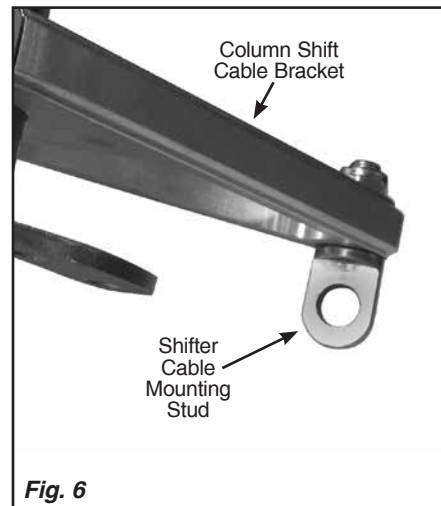

Fig. 6
Step 8: Install the shifter cable mounting stud into the column shift cable bracket with the 3/8"-24 nylock nut, but **DO NOT OVER-TIGHTEN!** The cable mounting stud has to be free to rotate in the column shift cable bracket when shifting gears. Fig. 6